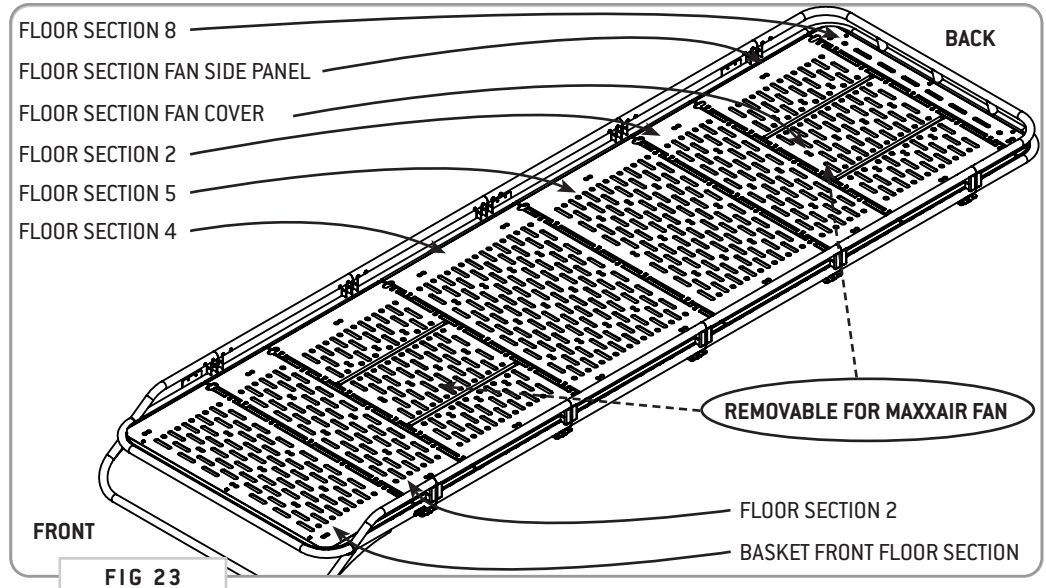
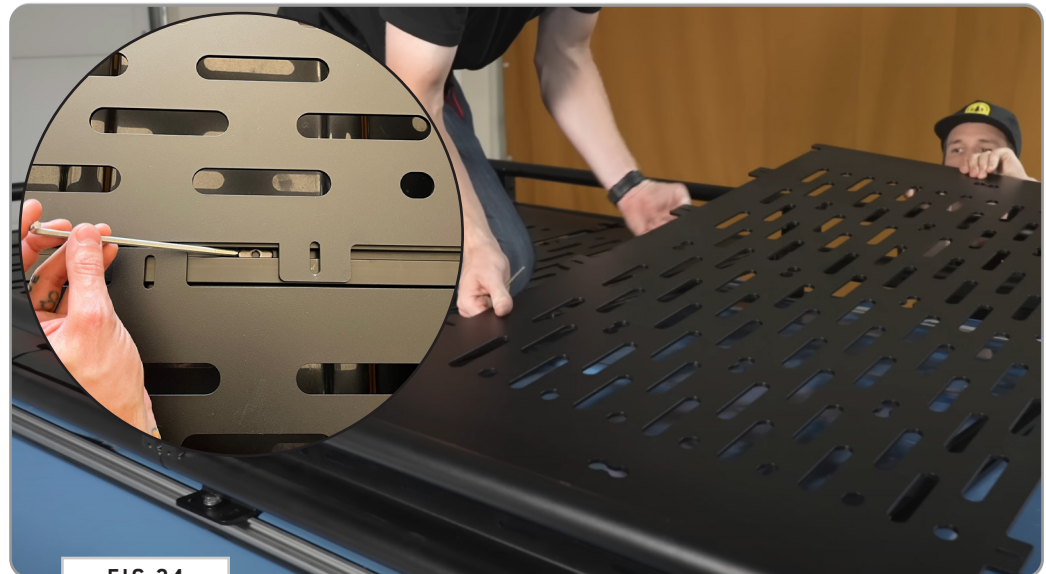

FIG 23
FIG 24
**9.1 Install Floor Panels:** Begin to layout your **Decking Panels** along the locations shown in **FIG 23**. Adjust the **T-Nuts** as necessary to line up with the available pill slots of the **Decking Panels** (**FIG 24**).